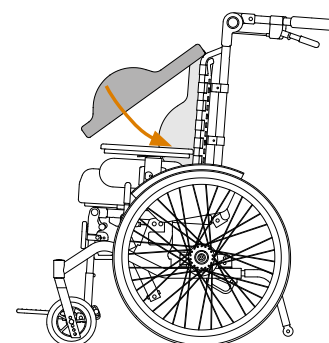

Figure 14. Setting cushion
- Push the cushion forward and press firmly against the back (Figure 14).